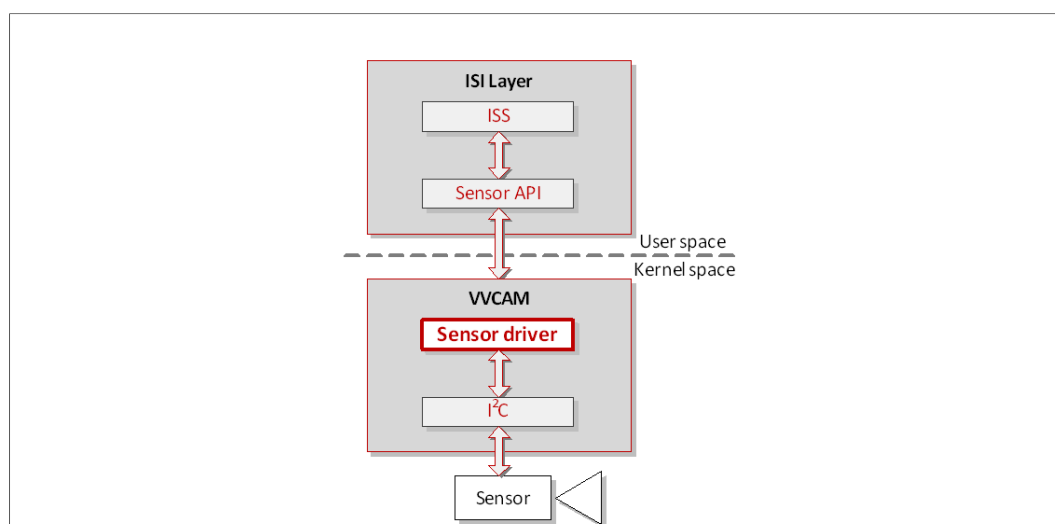

Figure 2. Sensor Module in Linux Kernel
- **Sensor Module in Linux Kernel:** I2C is called in the kernel to read and write the sensor register as shown in Figure 2 below.